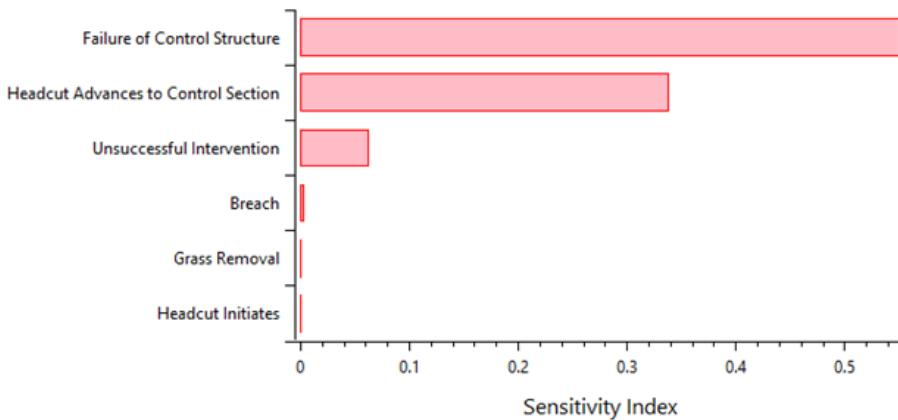

Figure 8.13: Event tree diagnostics tree node sensitivity indices.
- **Sensitivity Index:** Displays each node's first-order sensitivity index, indicating its contribution to the variance in the SRP (Figure 8.13). A high sensitivity index suggests that reducing uncertainty for that node could significantly affect the overall SRP.